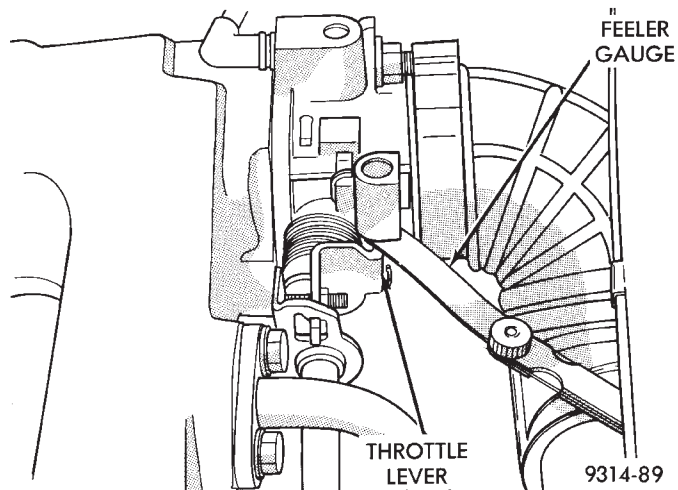

Fig. 63 Idle Speed Screw
- (1) Install .004 inch feeler gauge between the idle speed screw and throttle lever on the right throttle body (Fig. 63).